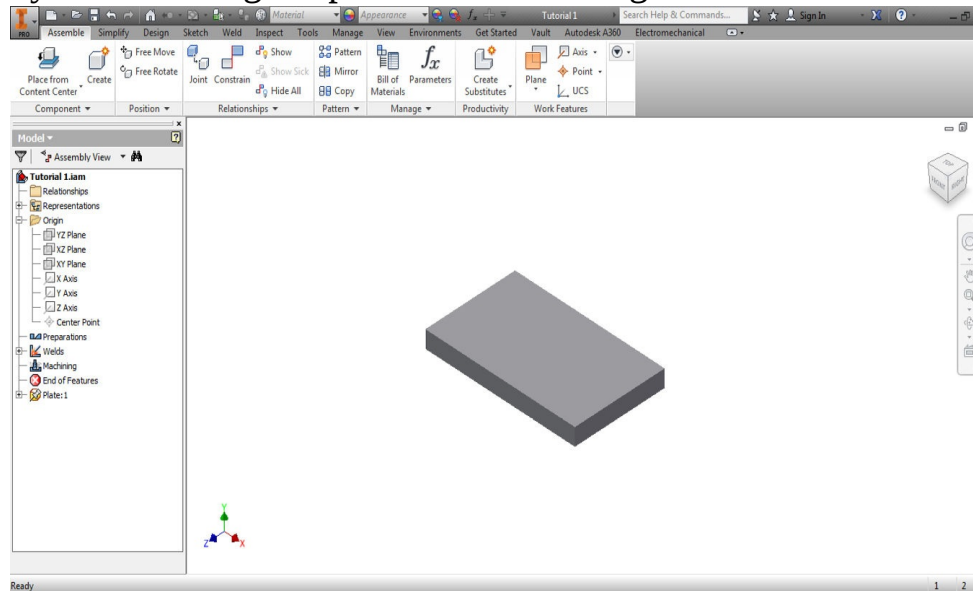

Figure 16-20 Weldment after creating the plate
2. Now, choose the **Create** tool from the **Assemble** tab; the **Create In Place Component** dialog box is displayed. Enter **Plate** in the **New Component Name** edit box and choose the **OK** button and then create a plate of dimensions 50 x 30 x 5 mm. Save the file and then choose the **Return** tool from the **Return** panel to return to the Assembly environment. The Weldment assembly after creating the plate is shown in Figure 16-20.